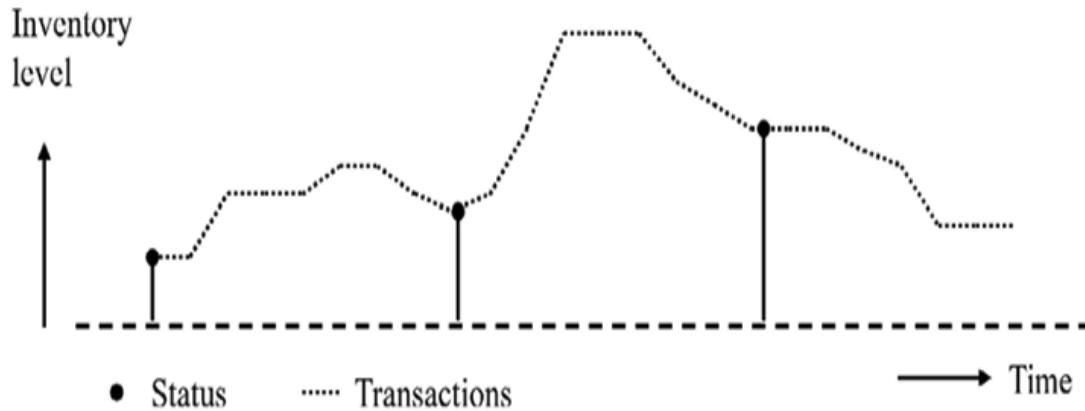

Figure 2.7.3: Storing the status regularly, and changes in between
- Store the initial inventory level at fixed points in time for each product, like at the start of each year; see *Figure 2.7.3*. This is a much better approach, as we can select the reference level for all products at once and use efficient aggregations to compute actual inventory levels. The drawback of this approach is that you will probably store multiple copies of reference levels (one for each year, for example), and your DAX code will need to determine where the relevant reference level can be found, and ignore other references and transactions before the right reference level.